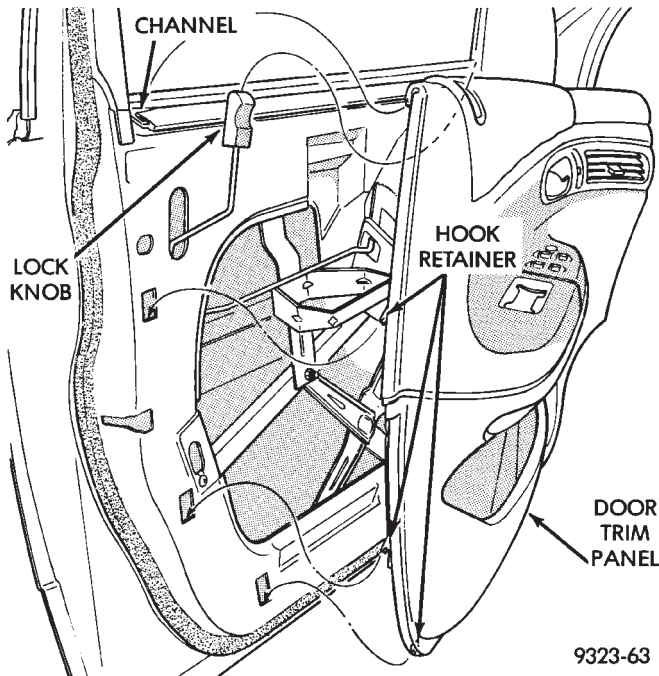

Fig. 15 Front Door Panel Hooks and Lock Button
(13) Lift trim panel upward to disengage hook retainers at bottom of trim panel and separate trim panel from door (Fig. 15).
(14) Disengage wire connector from power door lock motor located on door latch.
(15) From behind door silencer pad, disengage push-in retainers holding wire harness to trim panel.
(16) Remove wire harness from behind silencer pad and separate trim panel from door.
(3) Engage wire connector to power door lock motor.
(4) Place trim panel in position on door and engage hook retainers at bottom of trim panel into holes in door (Fig. 15).